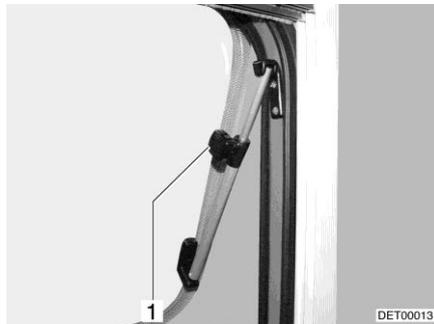

Fig. 119 Skylight with rotary hinges, open
- Open the skylight until the required position has been reached and use knurled knob (Fig. 119,1) to secure in position.
- Turn knurled knob (Fig. 119,1) until the latch is released.